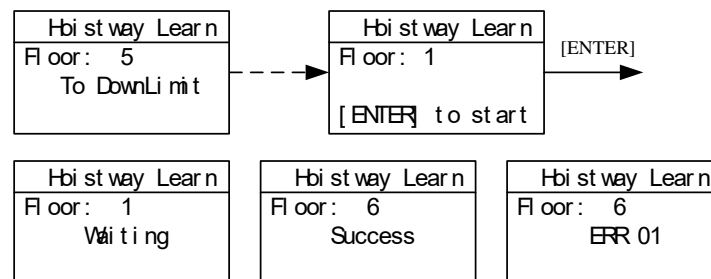

Figure 1.5.1 Hoistway Parameter Self-Learning Procedures
3. Put the elevator into emergency running mode ,Enter elevator hoistway self-learning menu through digital operator, follow the learning procedures shown below in Figure 1.5.1;